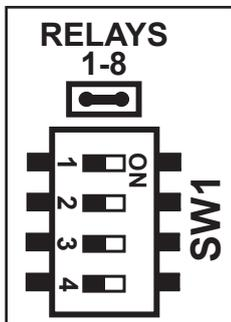

Figure 10. EXP-R8 relay expansion module SW1 & jumper
- The Relays expansion that corresponds to the Main PCB's zones is set by placing the jumper Relays 1-8 on it's pins (Figure 10). Set the dip switches SW1-1 to SW1-3 to OFF.